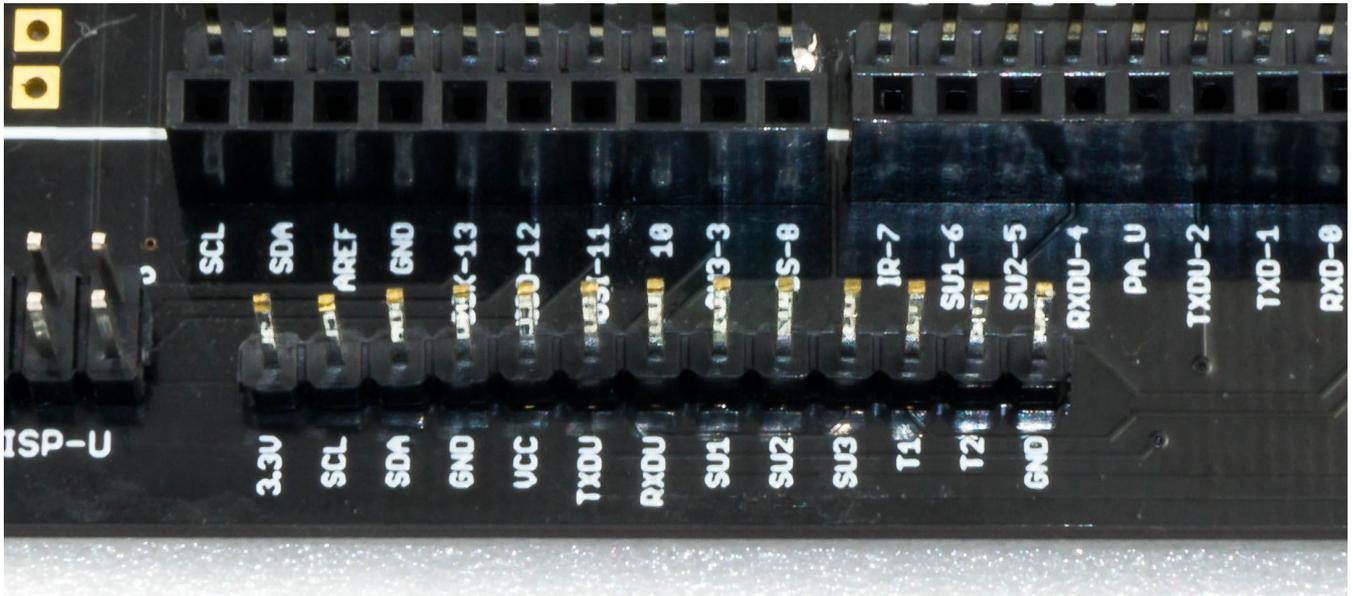

Figure 76
**Pin description (see inscription below the pins in Figure 76):**